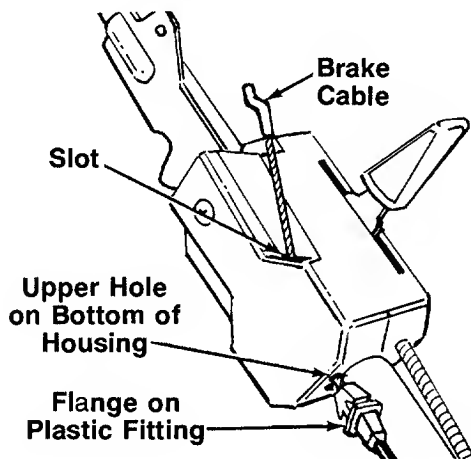

FIGURE 5.
6. Route the brake cable under the lower handle. Place the end of the brake cable into the upper hole on the bottom of the control housing, and through the slot in the side of the housing as shown in figure 5. The angle of the flange on the plastic fitting must be positioned downward as shown. Be careful not to bend or kink the cable.